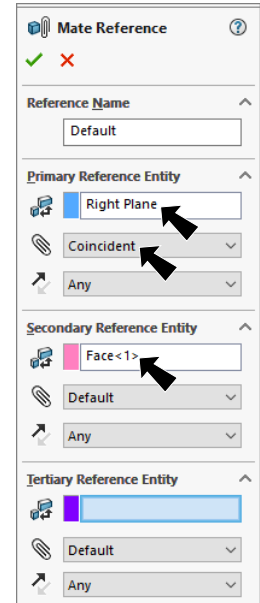

Fig. 9
Step 3. In the Mate Reference Manager: under **Primary Reference Entity**, **Fig. 9**